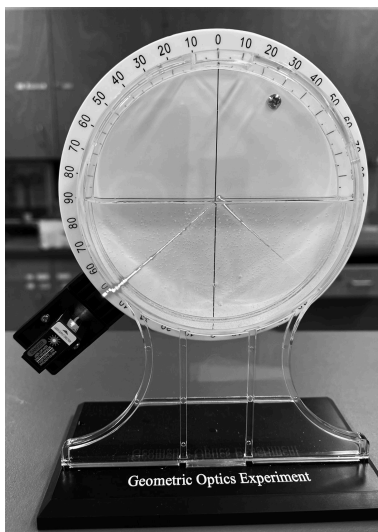

Figure 9: *Refraction tank* with laser; the bottom half is filled with water.
1. Place the *refraction tank* on the lab bench; if not already done, *add water as precisely as possible until the air-water interface is even with the midpoint line of the tank*, as shown in Figure 9.